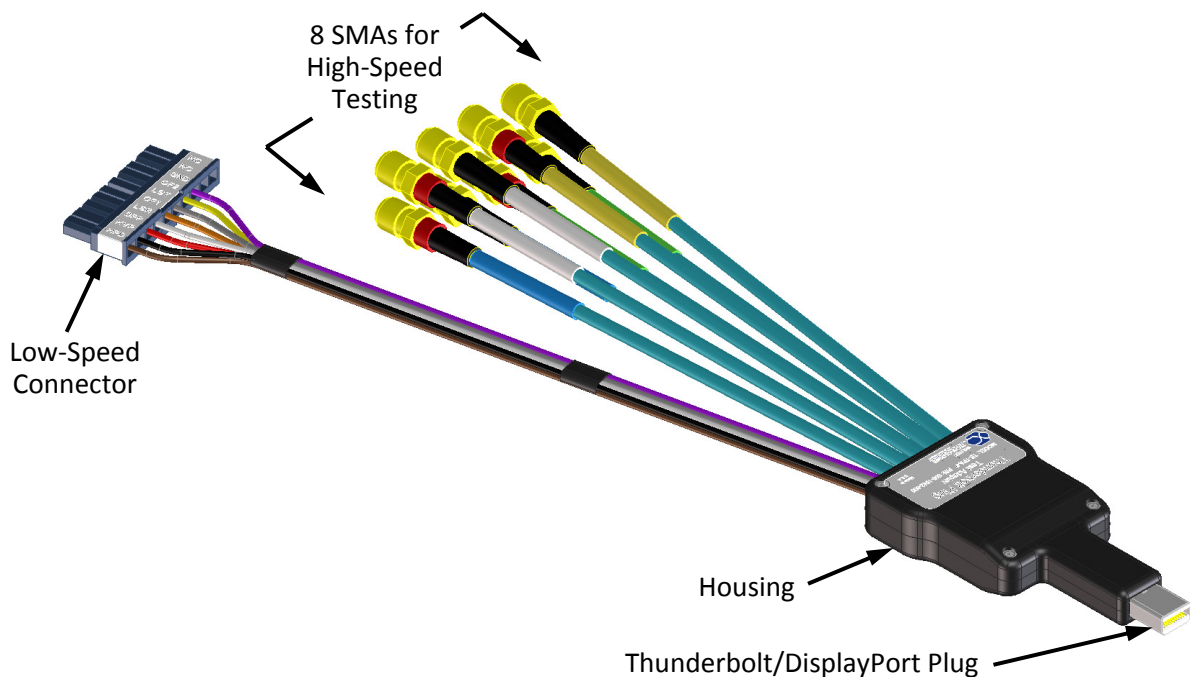

Figure 1. The Thunderbolt Test Adapter (Plug)
This user's guide documents the Thunderbolt Test Adapter (TB-TPA) and Calibration Module. The two test adapter types, shown in Figures 1 and 2, test Thunderbolt Interface (TB) cables and devices against the Thunderbolt PHY Compliance Test Specification. The Calibration Module, shown on Page 12, is used to zero-out test adapter attributes (using SOLT, with either the 1X-THRU or the 2X-THRU).